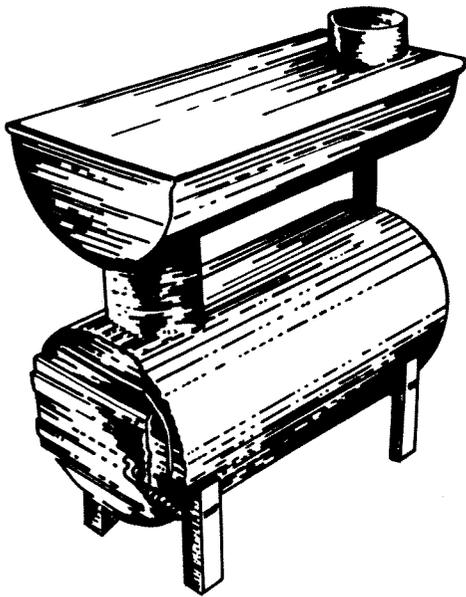

Fig. 14. Sevca stove.
18. **Sevca** (manufacturer), Box 396, Bellows Falls, VT 05101. The Sevca (Fig. 14 and Table 1) was designed and built by members of the Southeastern Vermont Community Action group, a private, non-profit corporation receiving money from the Community Services Administration to assist low-income people. The Sevca, in tests conducted at Williams College, achieved higher efficiency than any other stove. A smaller stove "for parlor situations" is available. A domestic hot-water coil can be installed in the stove's upper chamber. This stove has the same flow-pattern and baffle arrangement as the